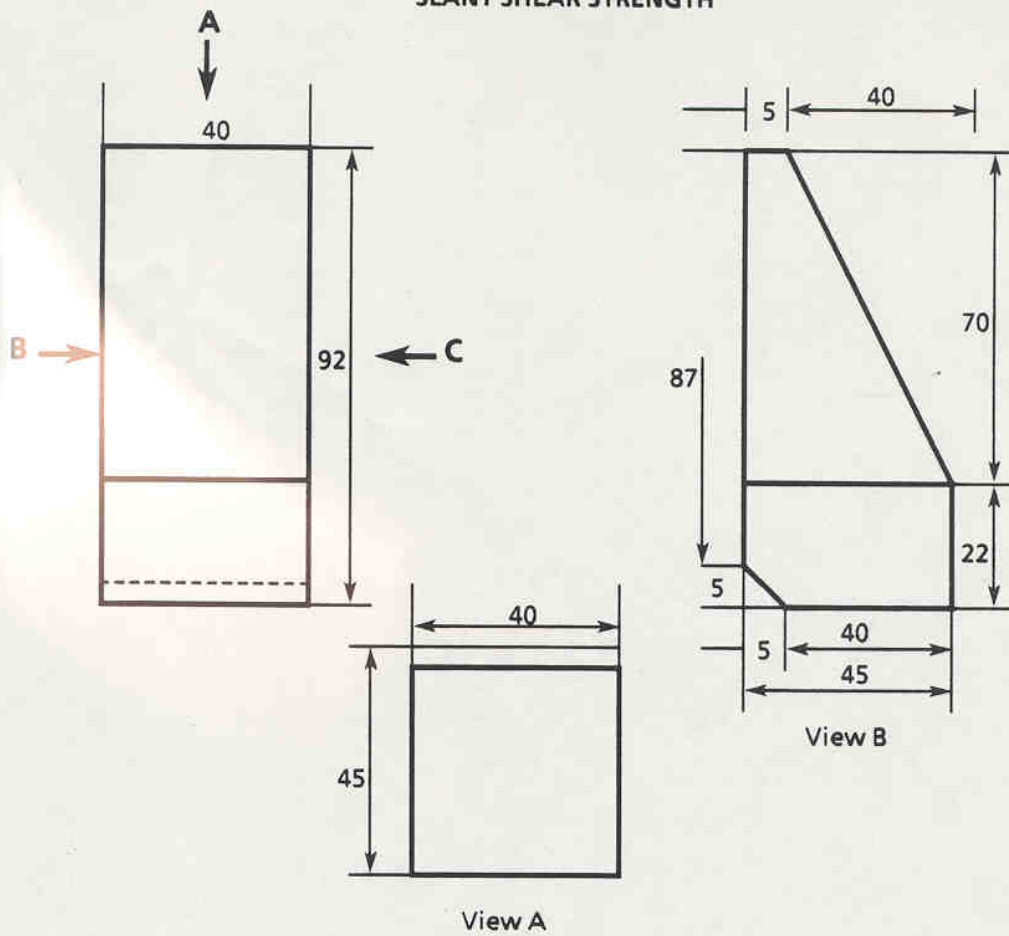

Figure 3
- (i) Prepare two concrete blocks by casting, as shown in Figure 3 using the following micro concrete mix: